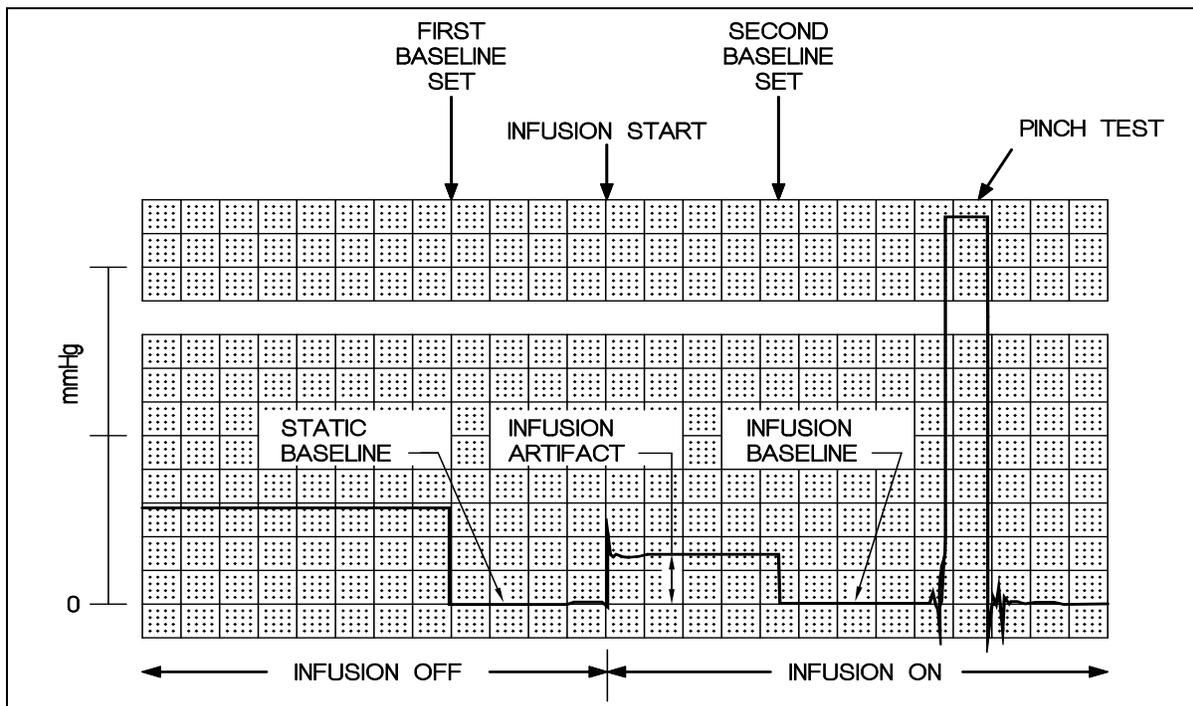

Figure 19. Infusion Artifact
7. With the master valve in the OFF position, set the baseline tracing to 0 (Figure 19).
All tracings should show an increase of baseline of 2-10 mm Hg. This is known as the infusion artifact. See Figure 19. It is caused by friction and restriction of the water flow passing through the catheter. If an abnormally high infusion artifact occurs, blockage or leakage may have occurred within the motility catheter (see Section 5.2).
- Connect the catheter to the transducer and lay it horizontally on top of the transducers. Flush thoroughly with water. With master on-off valve **OFF**, run recording system and set baseline to "0" for the system. Then turn master on-off valve **ON**, and check the recording for the 2-10 mmHg rise of the infusion artifact (Figure 19, Section 5.1).